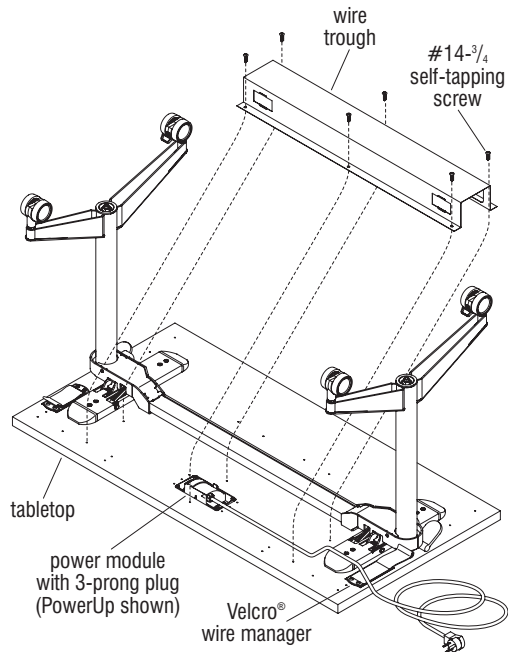

Figure 10
2. If wire trough is provided, position the wire trough over the underside of the power module as illustrated, with the two smaller rectangular RPT mounting holes facing the back edge of the table. Route the power cord out of the end of the trough. Align the wire trough mounting holes with the pre-drilled holes in the underside of the tabletop, and secure wire trough to tabletop using six #14 x 3/4" self-tapping screws. Do not over-tighten (Figure 10).
3. Strap in the module cord using the installed Velcro® wire manager (Figure 10).